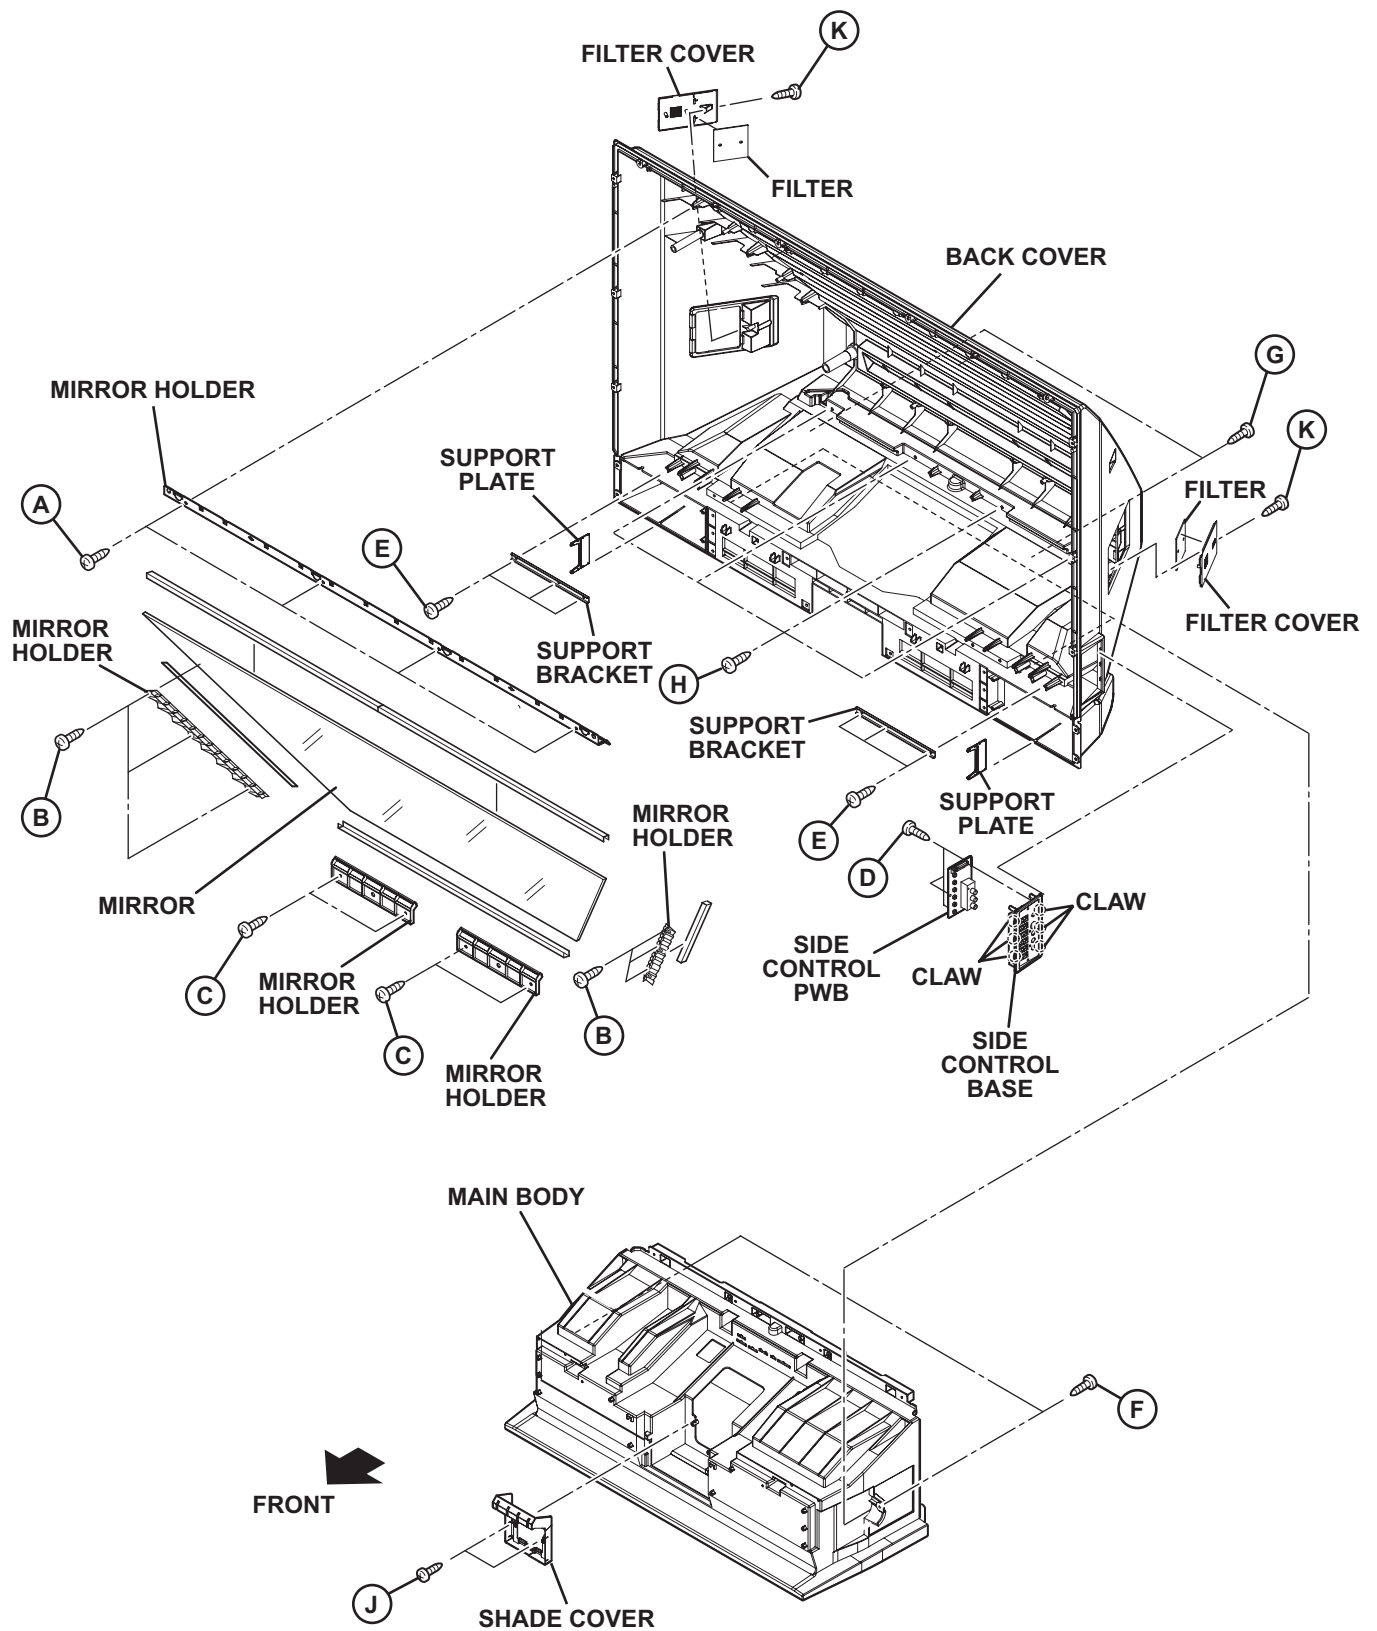

Fig.4
3.1.2.7 REMOVING THE MIRROR (Fig.4)
3.1.2.8 REMOVING THE SIDE CONTROL PWB (Fig.4)
3.1.2.9 REMOVING THE SUPPORT BRACKET (Fig.4)
- (1) Remove the SUPPORT BRACKET.
- (2) Remove the opposite SUPPORT BRACKET by the same method.
3.1.2.10 REMOVING THE BACK COVER (Fig.4)
3.1.2.11 REMOVING THE SHADE COVER (Fig.4)
- (1) Remove the 2 screws **[J]**.
- (2) Remove the SHADE COVER.
3.1.2.12 REMOVING THE FILTER (Fig.4)